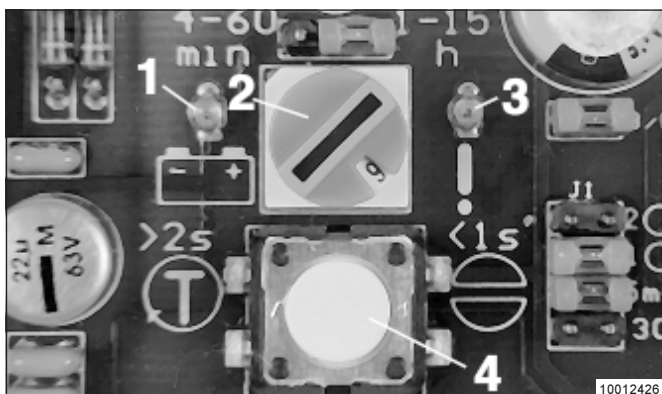

Fig. 16 - LED of the printed circuit board
- The following can be performed with the pushbutton (item 4, Fig. 16):
- \* Switch the pump on again by triggering an additional lubrication cycle. For this, press the pushbutton (4, Fig. 16) **>2 seconds**.
- To check whether power is applied to the printed circuit board, observe whether the left-hand LED 1, Fig. 16, is lit.